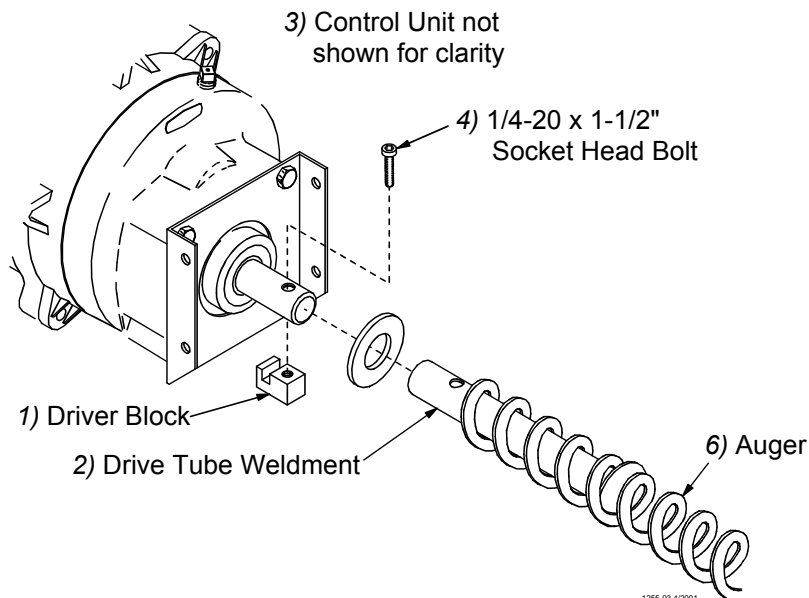

Figure 69. Auger Driver Components
4. Slide the Drive Tube and flat washer over the output shaft on the Power Unit, as shown in **Figure 69**.
6. Turn the Drive Tube Weldment into the auger, then attach to the output shaft of the Power Unit, as shown in **Figure 69**. Use the Driver Block to secure the auger to the Output Shaft.